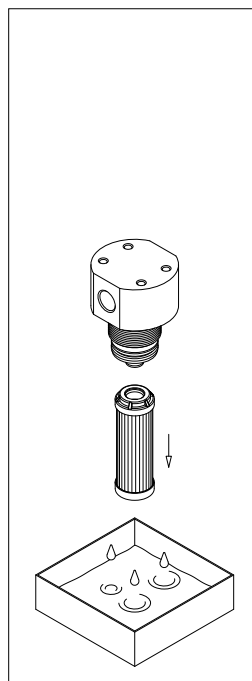

fig. 3
- (Fig. 3) Pull the filter element out.